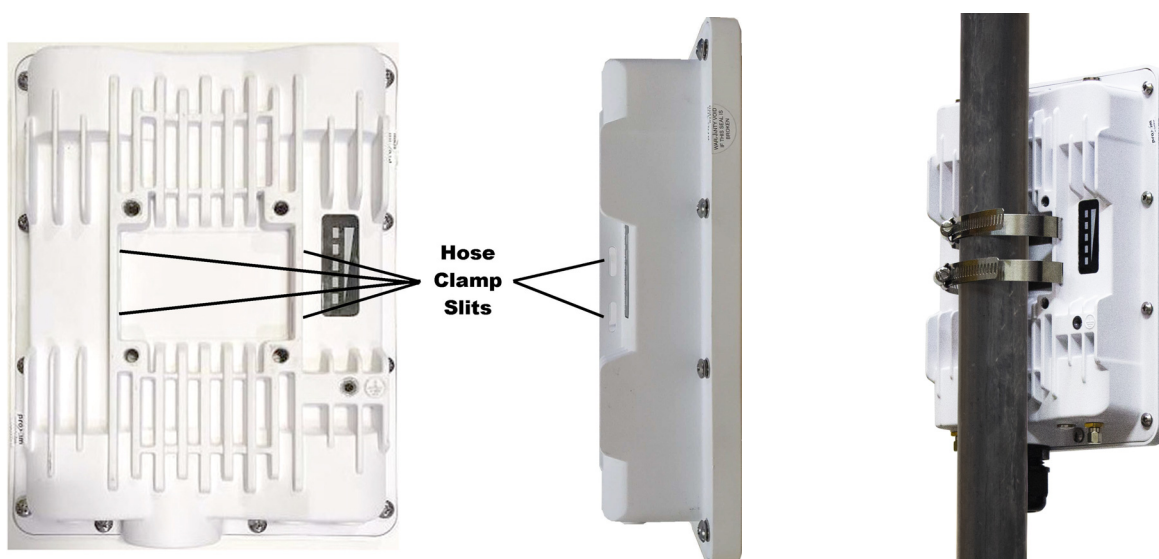

Figure 4-4 Pole Mounting (Edge 1035, 1045 and 1055)
1. To pole mount the device to a 1 to 2.5 inch diameter pole, insert the two Hose Clamps through the hose clamp slits at the bottom of the Device. See Figure 4-4.